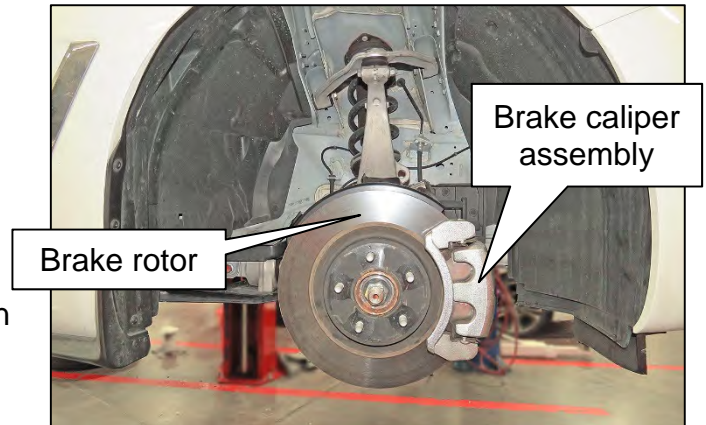

Figure 27
**HINT:** Two (2) piston caliper shown in Figure 27. Four (4) piston removal is similar.